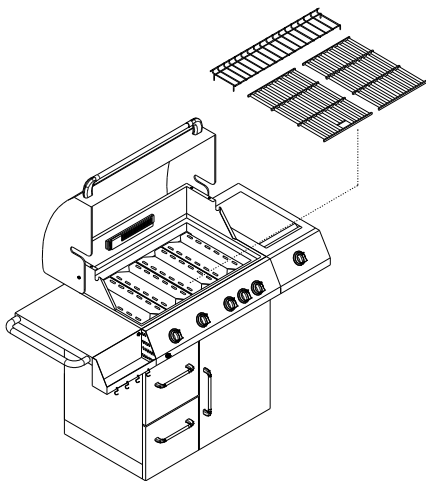

Figure 13
1. Evenly space cooking grids on the ledge above flame tamers. (Fig.13)
2. Place warming rack into the holes of the upper left and upper right of grill bowl side panels. (Fig.13)